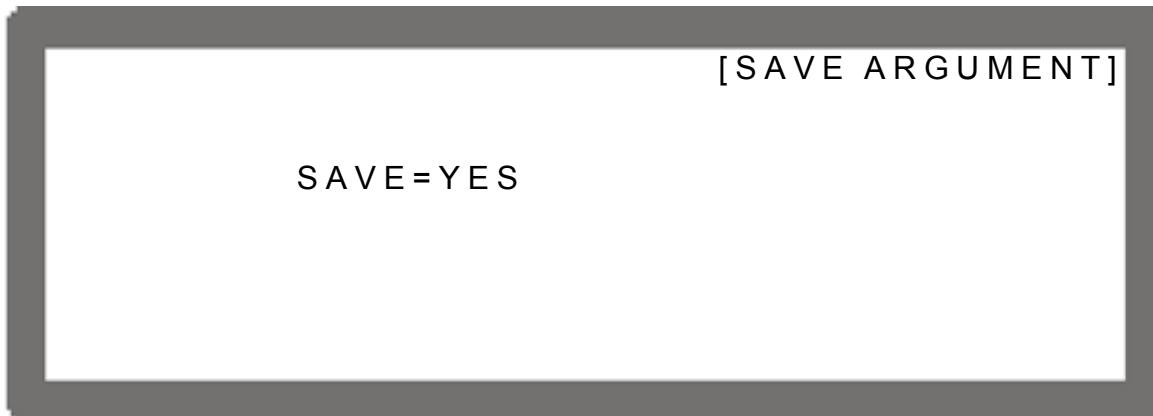

Figure 3-117
(12) The current calibration is done once the above actions are completed. Turn off the DC Power Supply output and press “” and “” to save the calibrated data as Figure 3-117 shows, or press “” to return to MAIN PAGE.
(8) The APG Voltage calibration is done once the above actions are completed. Press “**SAVE**” and “**ENTER**” to save the calibrated data as Figure 3-117 shows, or press “**EXIT**” to return to MAIN PAGE.
① NOTICE
- (8) The APG Voltage calibration is done once the above actions are completed. Press “” and “” to save the calibrated data as Figure 3-117 shows, or press “” to return to MAIN PAGE.